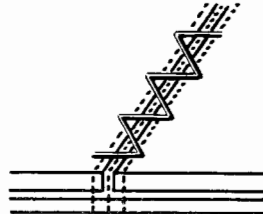

Fig. 155. Stitch along each side of shoe.
5. Tie down the edges by stitching close to the edge along each side of the break as in Figure 155.